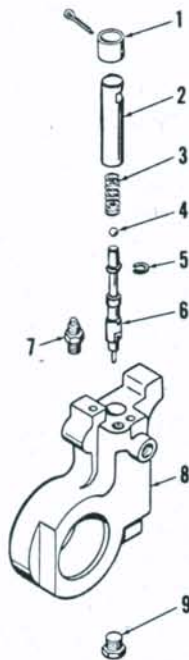

Fig. 249—Exploded view of early style Ipto control valve assembly.
To disassemble control valve spool, unseat internal snap ring (5—Fig. 249) from groove in plunger (2). Note that spacer ball (4) is available in alternate diameters and is used to establish compressed length of valve spool within recommended limits of 102.36-103.12